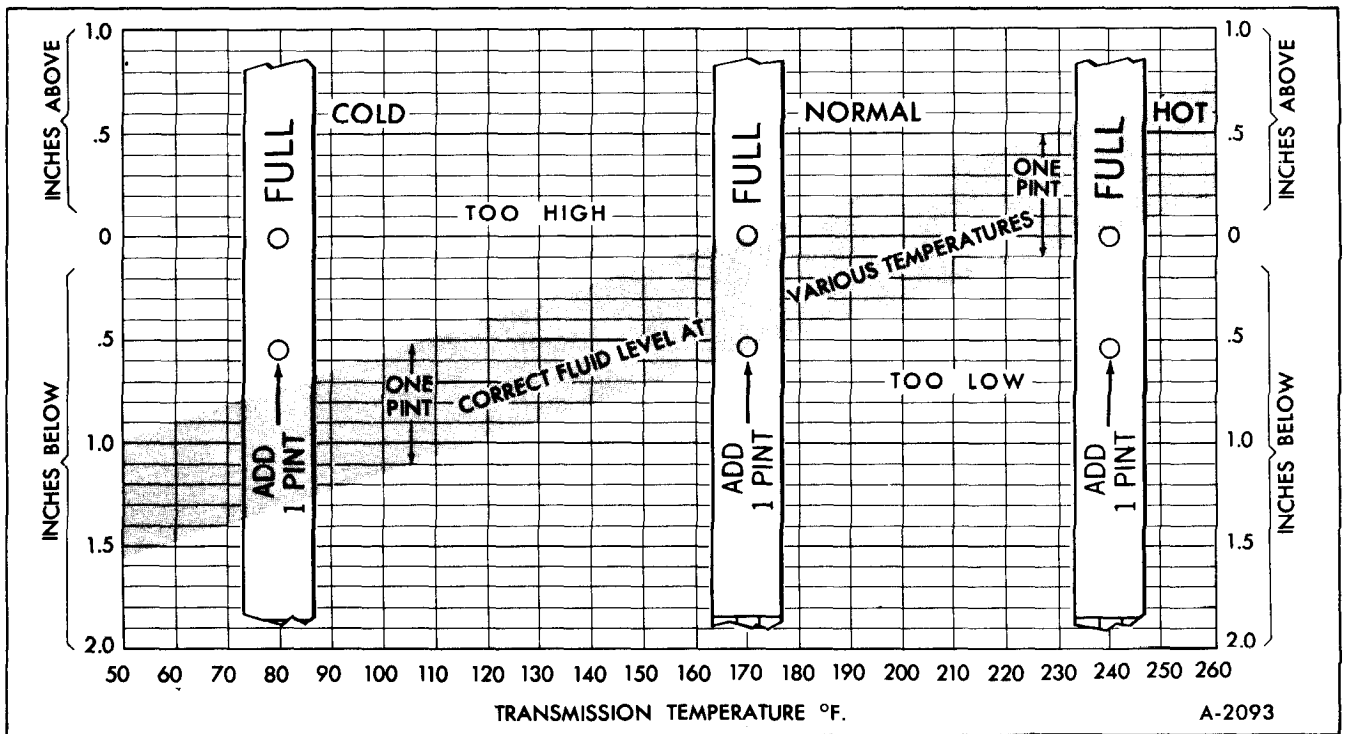

Figure 27—Transmission Oil Level
temperature is necessary, as proper fluid level at low operating temperatures will be below the "ADD" mark on the dipstick, Figure 27, and proper fluid level at higher operating temperatures will rise above the "FULL" mark. Fluid level must always be checked with the vehicle on level surface, and with engine running to make certain converter is full. To determine proper fluid level, proceed as follows:
10. Reduce engine speed to slow idle and check fluid level. Add fluid to bring to proper level, Figure 27.
4. Check fluid level and add additional fluid to bring to proper level, Figure 27.